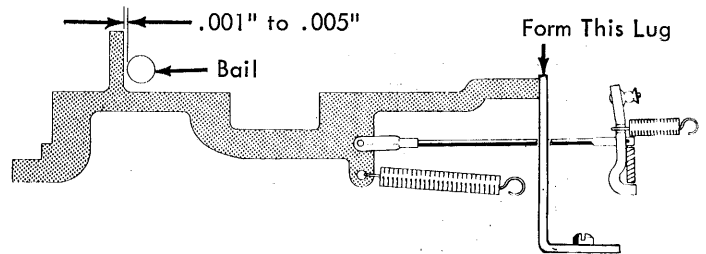

FIGURE 17. Latch Interposer Stop (Early Style)
15. Latch Interposer Stop - Form the stop lugs to obtain .001" to .005" clearance between each latch interposer and its respective selector bail (Fig. 17 or 18).